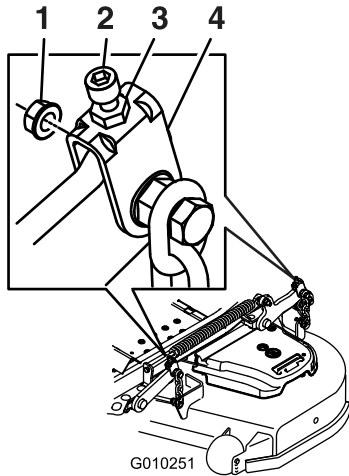

Figure 87
10. If needed, loosen the whizlock nut on the side of the yoke and the jam nut on top. Fine tune the screw adjuster by turning it to get 7.6 mm (3 inch) height (see Figure 87).
16. Fine tune the screw adjuster by turning it to get 8.3 mm (3-1/4 inches) height (Figure 87).